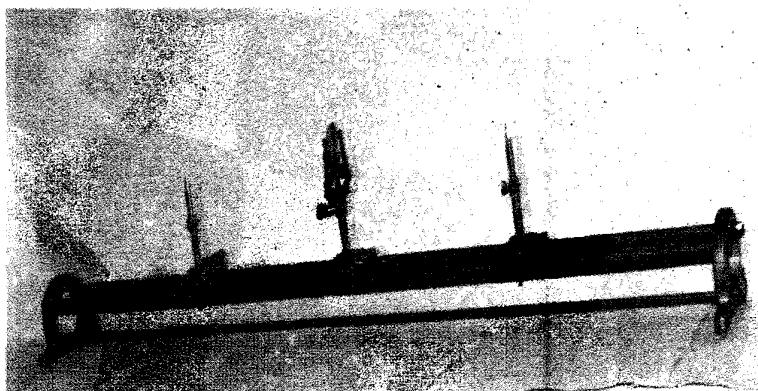

Fig.4.5: Experimental arrangement for determination of focal length of a convex lens
2. Refer to Fig.4.5 which shows how you should mount the lens, the object and the image pins in the uprights on an optical bench.